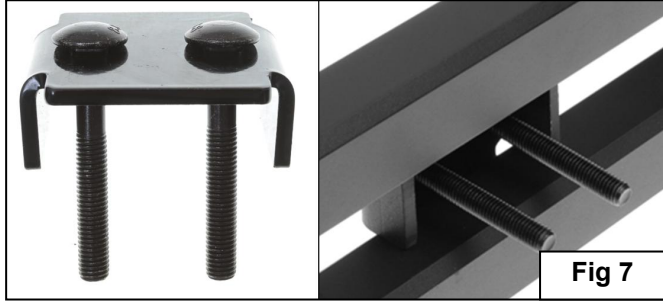
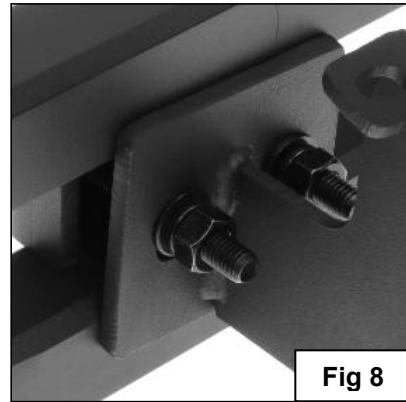

Fig 7
Fig 8
5. Select the Driver Side Bar. Slip (2) M10X1.5-75 Carriage Bolts into each 2-Hole Support Brackets ,and insert the 2-Hole support bracket into the Driver Side Bar.**(Fig 7)**. Carefully position the Bar onto the (2) Mounting Brackets. **IMPORTANT:** Do not slide the Bar on the Brackets or damage to the finish may result. Attach the Driver Side Bar to the Mounting Brackets with (2) M10 Hex Nuts,(2)M10 lock washers and (2)M10 flat washers, **(Fig 8)**. Do not tighten hardware.